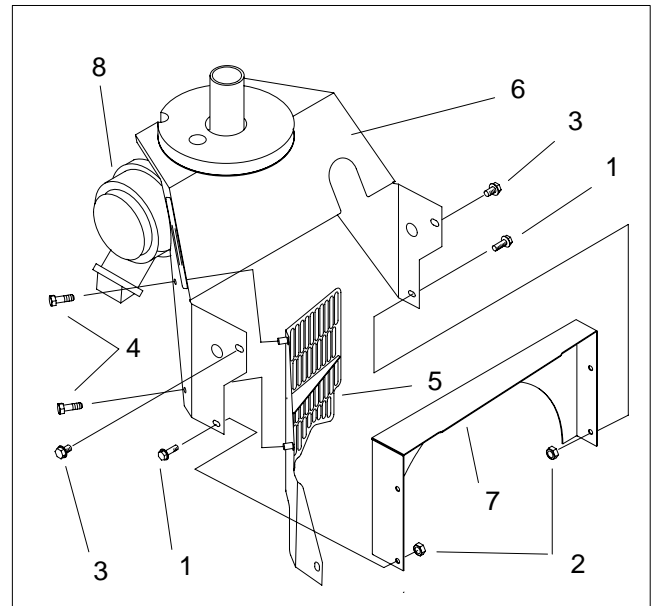
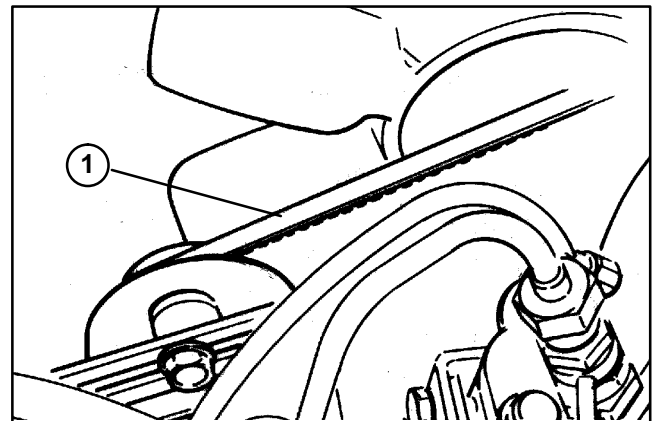

Figure 7
Figure 8
1. Gain access to the alternator belt (Fig 7).
- A. Loosen top hose clamp securing the upper portion of the hose connected to the air cleaner (8).
- B. Remove cap screws (1) and lock flange nuts (2). Remove hex head screws (3).
- C. On European models, remove hex head screws (4) from the guard (5) and air cleaner housing (6).
- D. Pull air cleaner housing from the radiator top shroud (7) and hose. Plug air cleaner hose and hose inlet to the air cleaner.
3. Adjust alternator belt to the proper tension. Tension alternator belt so it deflects 0.20 inch with a 2 to 3 pound load applied midway between the crankshaft and alternator pulleys (Fig. 8).
5. Reinstall air cleaner housing (Fig 7).
- B. Place air cleaner housing (6) on the radiator top shroud (7). Reconnect upper end of the air cleaner hose to the air cleaner (8). Align holes to receive fasteners.
- C. On European models, reinstall hex head screws (4) into guard (5) through the air cleaner housing (6).
- D. Secure cap screws (1) and lock flange nuts (2) to air cleaner housing and radiator top shroud (7).
- E. Secure hex head screws (3) into the air cleaner housing and radiator assembly.